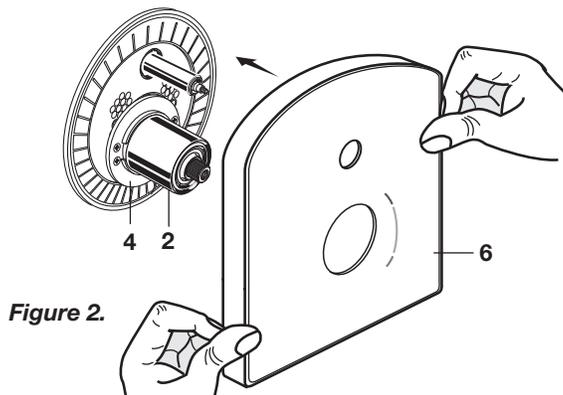

Figure 2.
- **Figure 2.** Install ESCUTCHEON (6) onto CAP (2) and push flush against finished wall. ESCUTCHEON (6) will snap fit onto ESCUTCHEON SUPPORT (4).